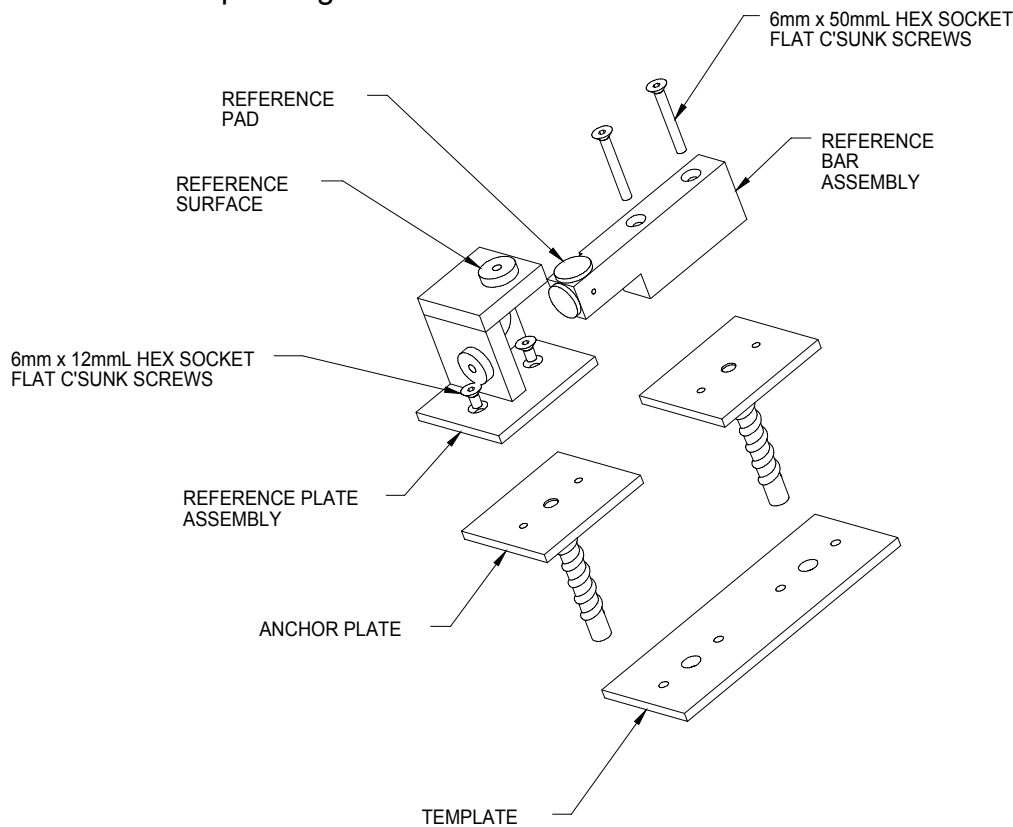

Figure 1: 3D Crack Meter Parts
8. Bolt the Reference Plate Assembly onto one Anchor Plate (refer to Figure 1)
9. Bolt the Reference Bar Assembly onto the other Anchor Plate (refer to Figure 1)
4. Record the Axis number and then insert the Dial Depth Gage into the Axis Reference Surface guide hole and butt the Micrometer Base flat against the Axis Reference Surface (refer to Figure 1). **Make sure the end of the Extension Rod reaches the Reference Pad.**